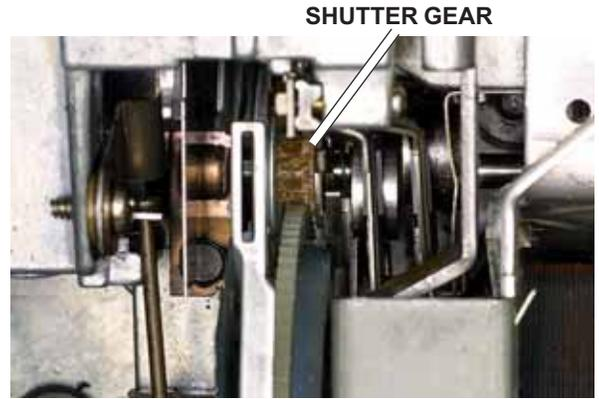
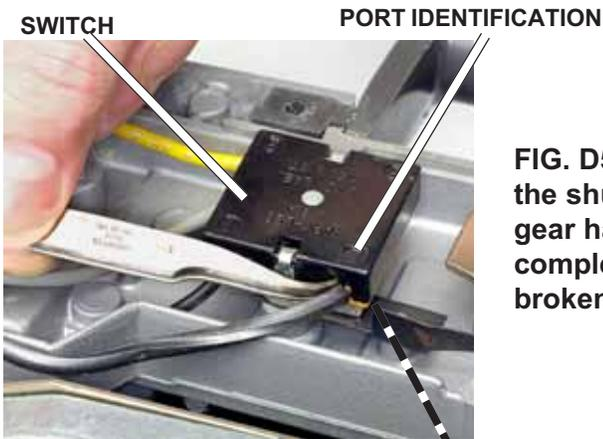
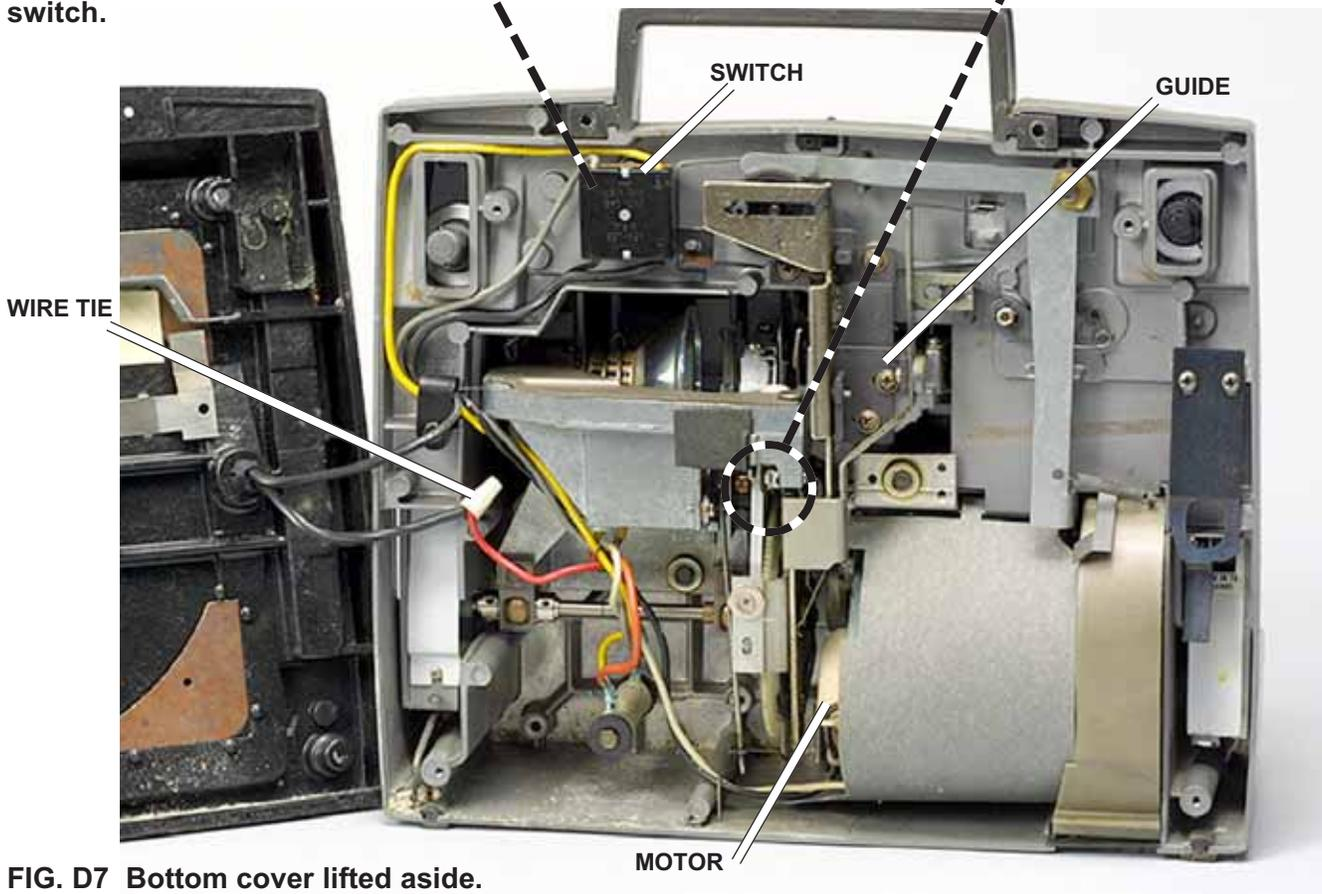

FIG. D4 This projector has a broken shutter gear—a new shutter is needed.
FIG. D5 Here the shutter gear has completely broken away.
FIG. D7 Bottom cover lifted aside.
3. Lift aside the bottom cover as shown in Fig. D7.
4. The power cord in the bottom cover still connects to the projector. To completely remove the bottom cover, first twist off the wire tie, Fig. D7, to separate two of the wires.
If the projector won't advance the film, the most likely problem is a damaged shutter gear. Look in the area shown by the dashed circle, Fig. D7. Fig. D4 and Fig. D5 show enlargements of this area. In Fig. D4, the shutter gear has been chewed away—the gear teeth are completely missing. In Fig. D5, the entire gear is missing—the gear has broken, and the sections may be inside the projector.
TIP: Before getting too far into the projector, check the plastic guide—the guide is black plastic in Fig. D7 and white plastic in Fig. D9. If the guide is cracked or broken, there's no use proceeding with the disassembly—you can't get the guide as a replacement part. If the projector belongs to a customer, return it as unrepairable. If you own the projector, you can use it for parts or as a practice mechanism. Or perhaps you can locate an unrepairable projector you can use for parts.